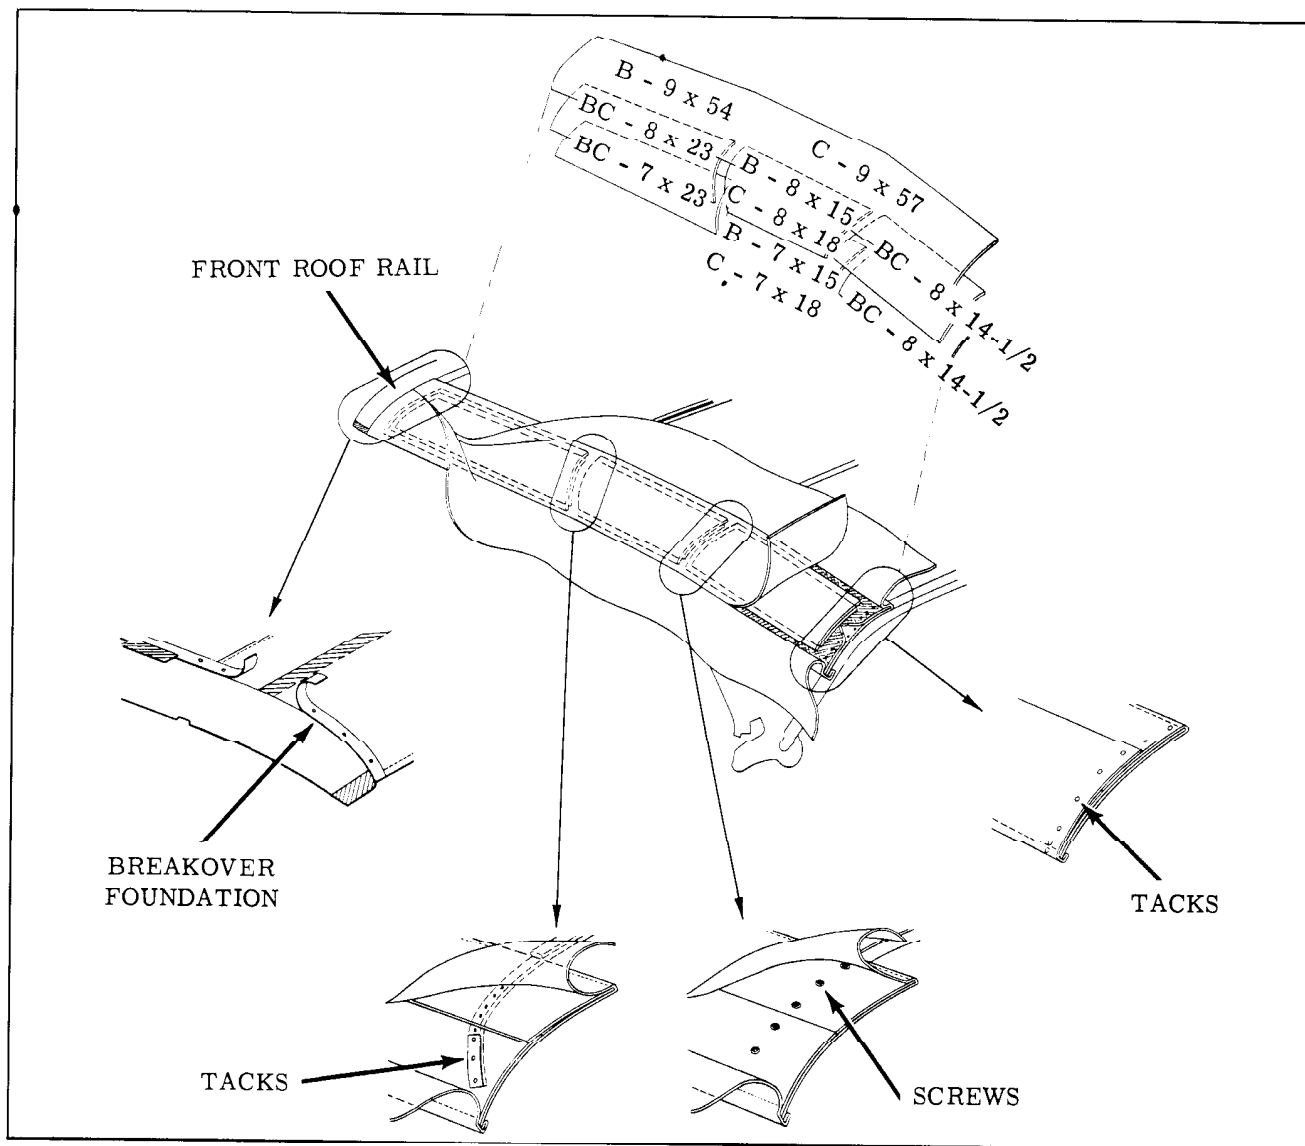

Fig. 17-28 Tacking Stay Pads
- Tack side stay pads in conventional manner to rear roof bow and front roof rail. Make sure inboard edge of pad is properly aligned within depressions in bow and rail. Tack stay pad to front bow. Inboard edge of pad should be located within $1/4$ inch of outboard edge of front bow felt silencer. Install pad to center bow with screws. Make sure inboard edge of pad is properly aligned within depression in bow. Install stay pad wadding in conventional manner using trim cement. (Fig. 17-28)